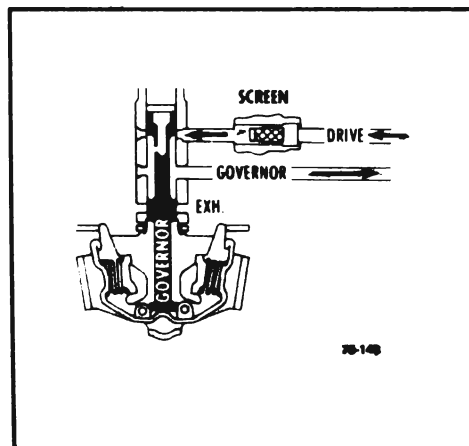

Figure 75-15 - Governor Assembly
c. Governor Assembly (See Figure 75-15)